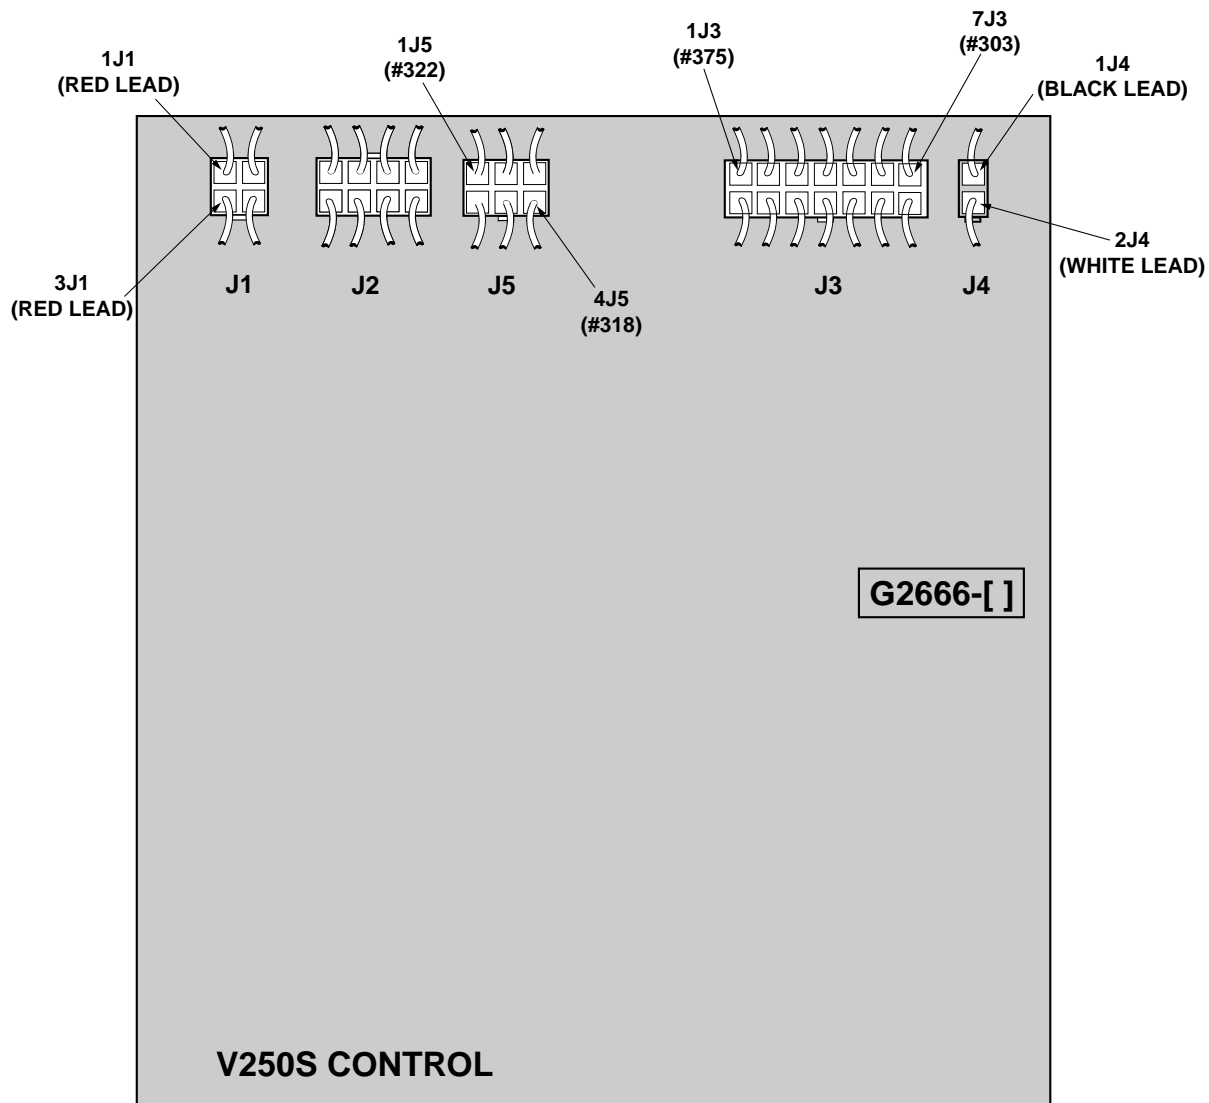

Figure F.9 Plugs J1-J5 on Control Board
3. Locate and familiarize yourself with the leads and pin locations in plugs J1 thru J5 on the control board. See Figure F.9.